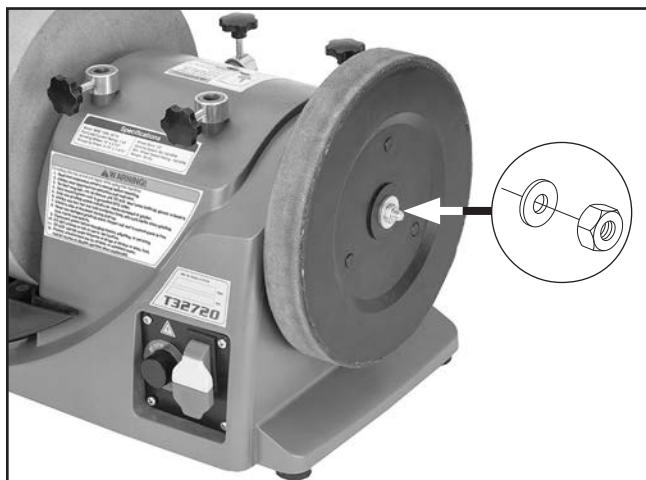

Figure 28. Location of arbor hex nut and flat washer.
3. Remove stropping wheel arbor hex nut and flat washer (see **Figure 28**).